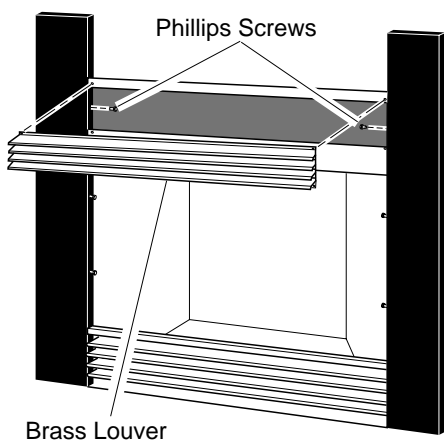

Figure 7 - Remove Brass Louver
- Using Phillips screwdriver, remove four screws attaching brass louver. Install one Phillips head screw (included with kit) in each side (see Figure 7).